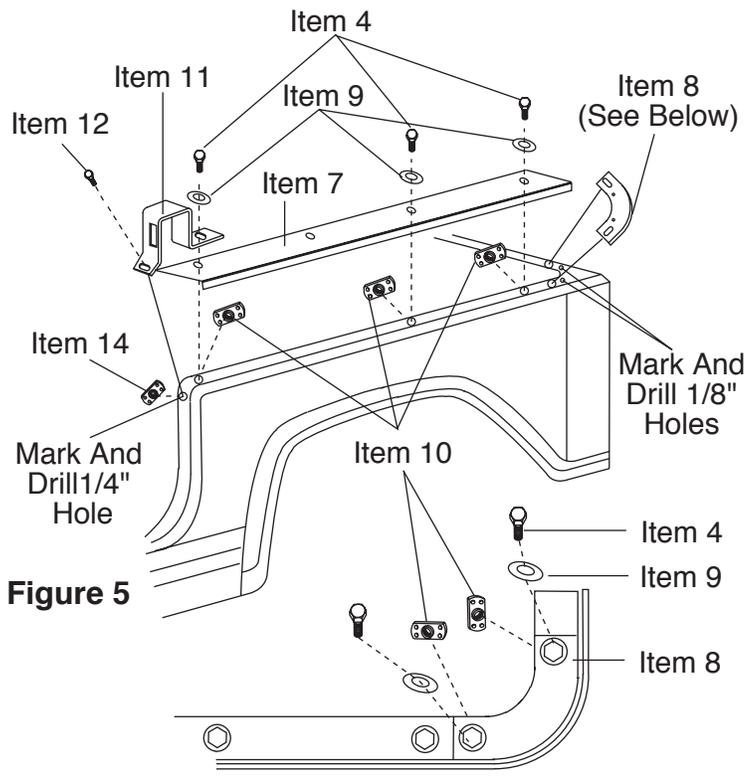

**Figure 4**
**Step 2. Horizontal Rod Bracket. Wrangler:** Remove the factory bolt in the roll bar header plate using #45 Torx wrench. Install horizontal rod bracket (**Item 3**) with 5/16 x 3/4" bolt (**Item 4**). There is 1 left and 1 right bracket. The peg on the bracket should be mounted so that it is to the outside of the vehicle. See figure 4.
**CJ-7:** Mark hole locations on windshield frame as shown in figure 4 and drill 5/32" hole. Secure horizontal rod bracket (**Item 3**) to frame with #14 x 1/2" sheet metal screw (**Item 5**) through star washer (**Item 6**).